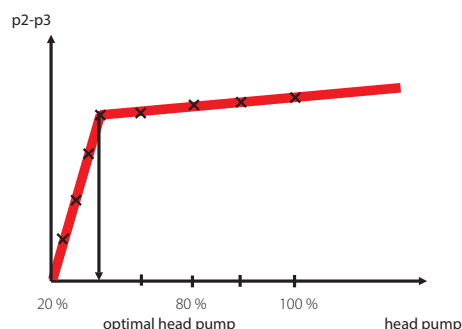

figure 3
5. Use the measurements to draw a graph with the differential pressure as a function of the pump head. (figure 3)